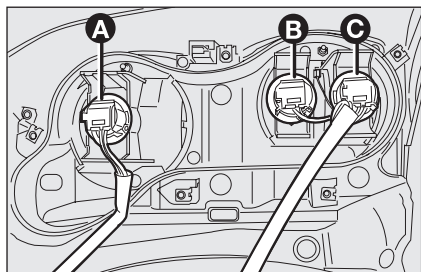

fig. 21
The bulbs are arranged inside the light unit as follows **fig. 21**:
- remove the required bulb (**A, B** or **C-fig. 21**), pushing it slightly and turning it counter-clockwise (bayonet coupling), then fit the new bulb.